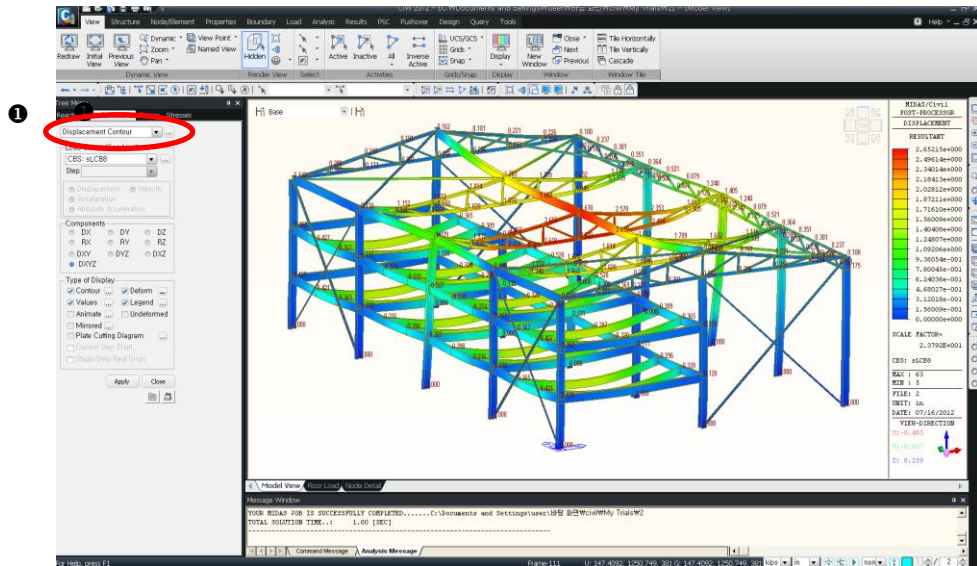

Figure 2.30 Contour of the Deformed Shape
1. Select **Deformations** in the post-processing functions tab (Fig.2.30-①).